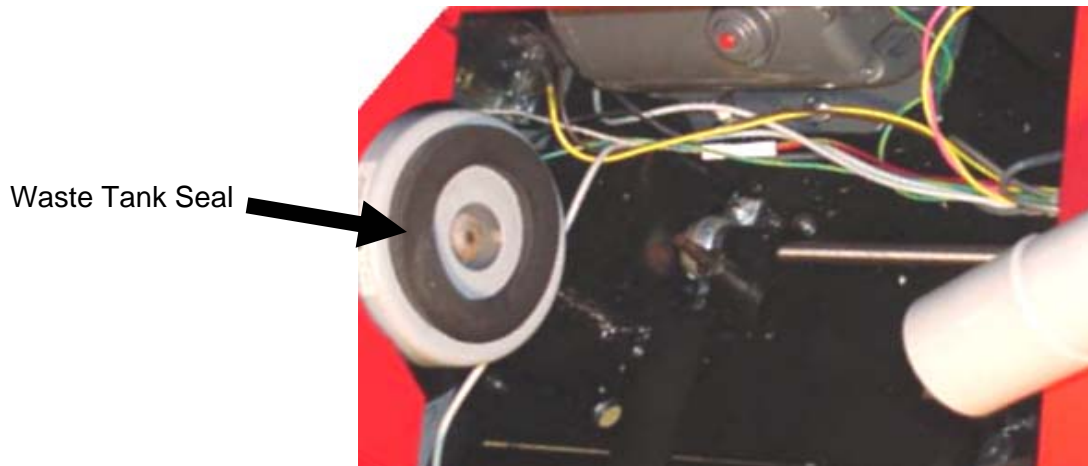

Figure 4-16
2. Remove the waste tank from the machine to expose the Waste Tank Seal, as shown in Figure 4-16.